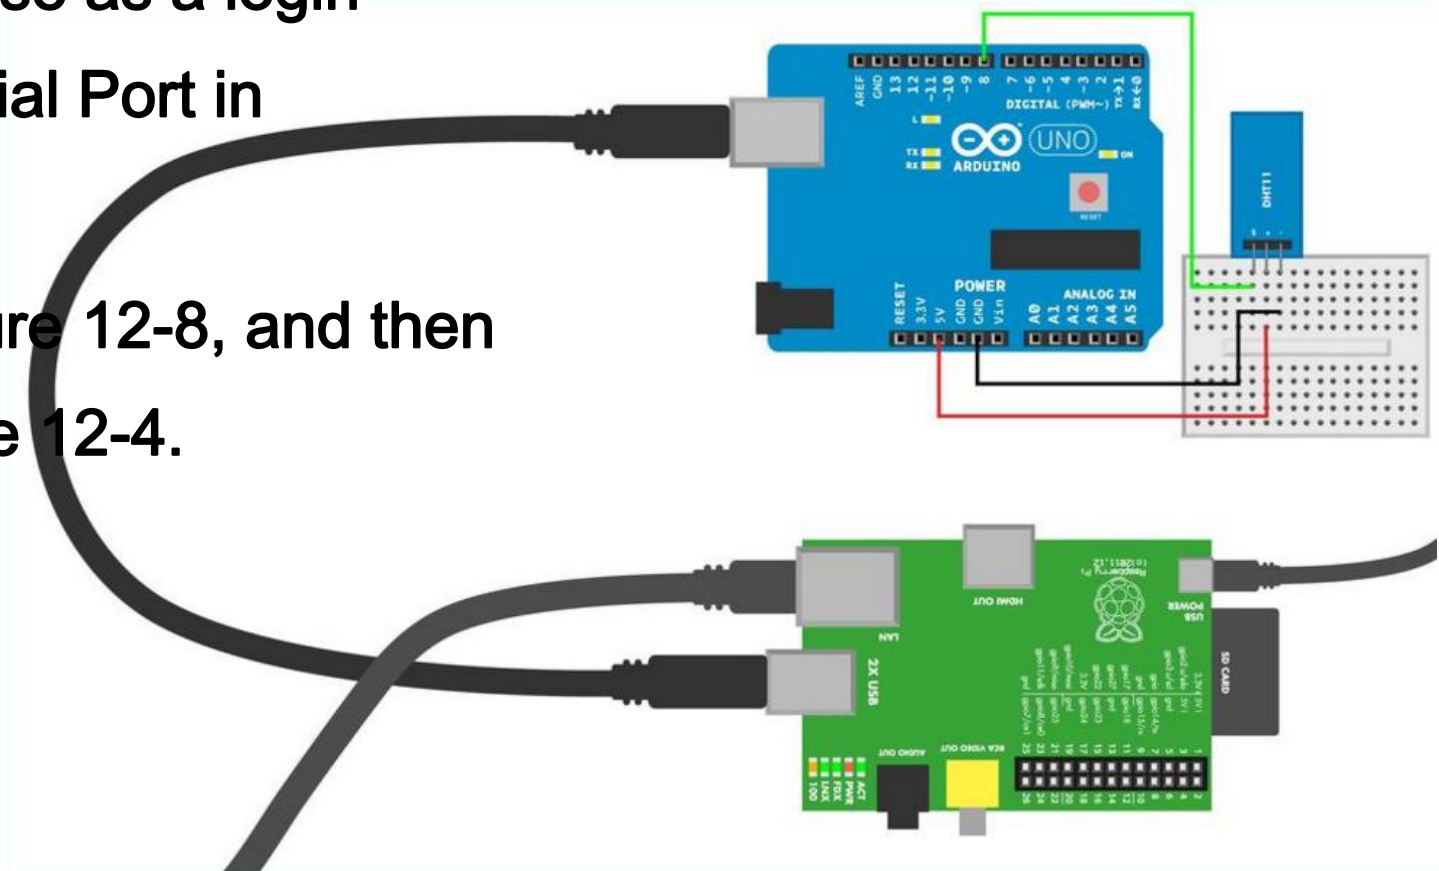

Figure 12-8. Arduino connected to Raspberry Pi
- Wire them up as shown in Figure 12-8, and then run the code shown in Example 12-4.
- Arduino communicates with serial over USB. To read serial from Raspberry Pi, use Python and PySerial. For a complete example of using PySerial, see Figure 12-8 or Chapter 7 of *Make: Arduino Bots and Gadgets*.